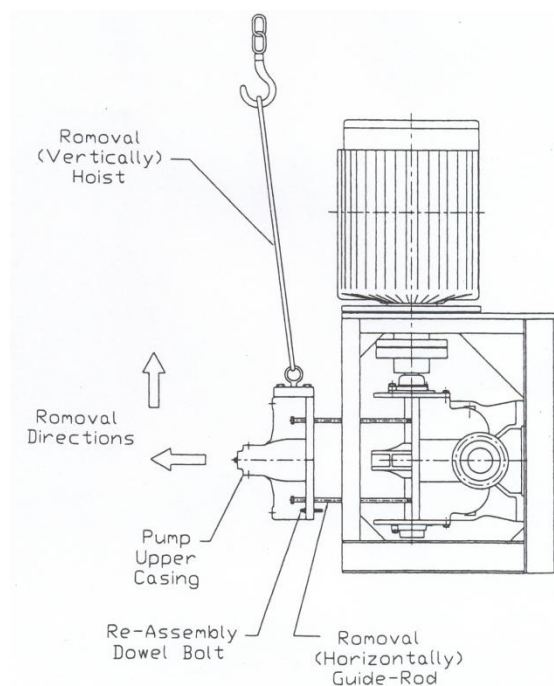

Fig. 9a
- (1) Remove 4 long bolts near side cover. Install four guide rods as fig.9a previously.
- (2) Remove bolts of side cover on the upper side casing only and loose bolt on the other side.
- (3) Use vertically hoist and connect to hook bolts attached to upper casing.
- (4) Remove all bolts holding upper and lower casing.
- (5) Lift off upper casing with dowel bolt and slide upper casing along the guide rods smoothly.